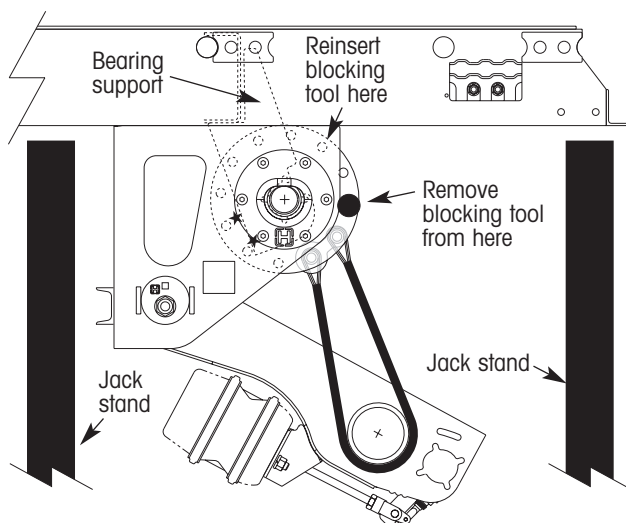

Figure 26. Turn trailer mode valve to "T" position, remove and reinsert blocking tool
9. With personnel clear of the trailer suspension, turn the trailer mode valve (figure 3) to the "T" position (transfer mode). The trailer will rise slightly off of the jack stands, and the flange plate assembly will rotate clockwise, causing the blocking tool to rotate away from the rear edge of the bearing support (figure 26).
11. Reinsert the two-piece blocking tool into the flange plates. Choose the pair of flange plate holes that are closest to the bearing support (figure 26). Center the blocking tool between the flange plates as shown in figure 2.